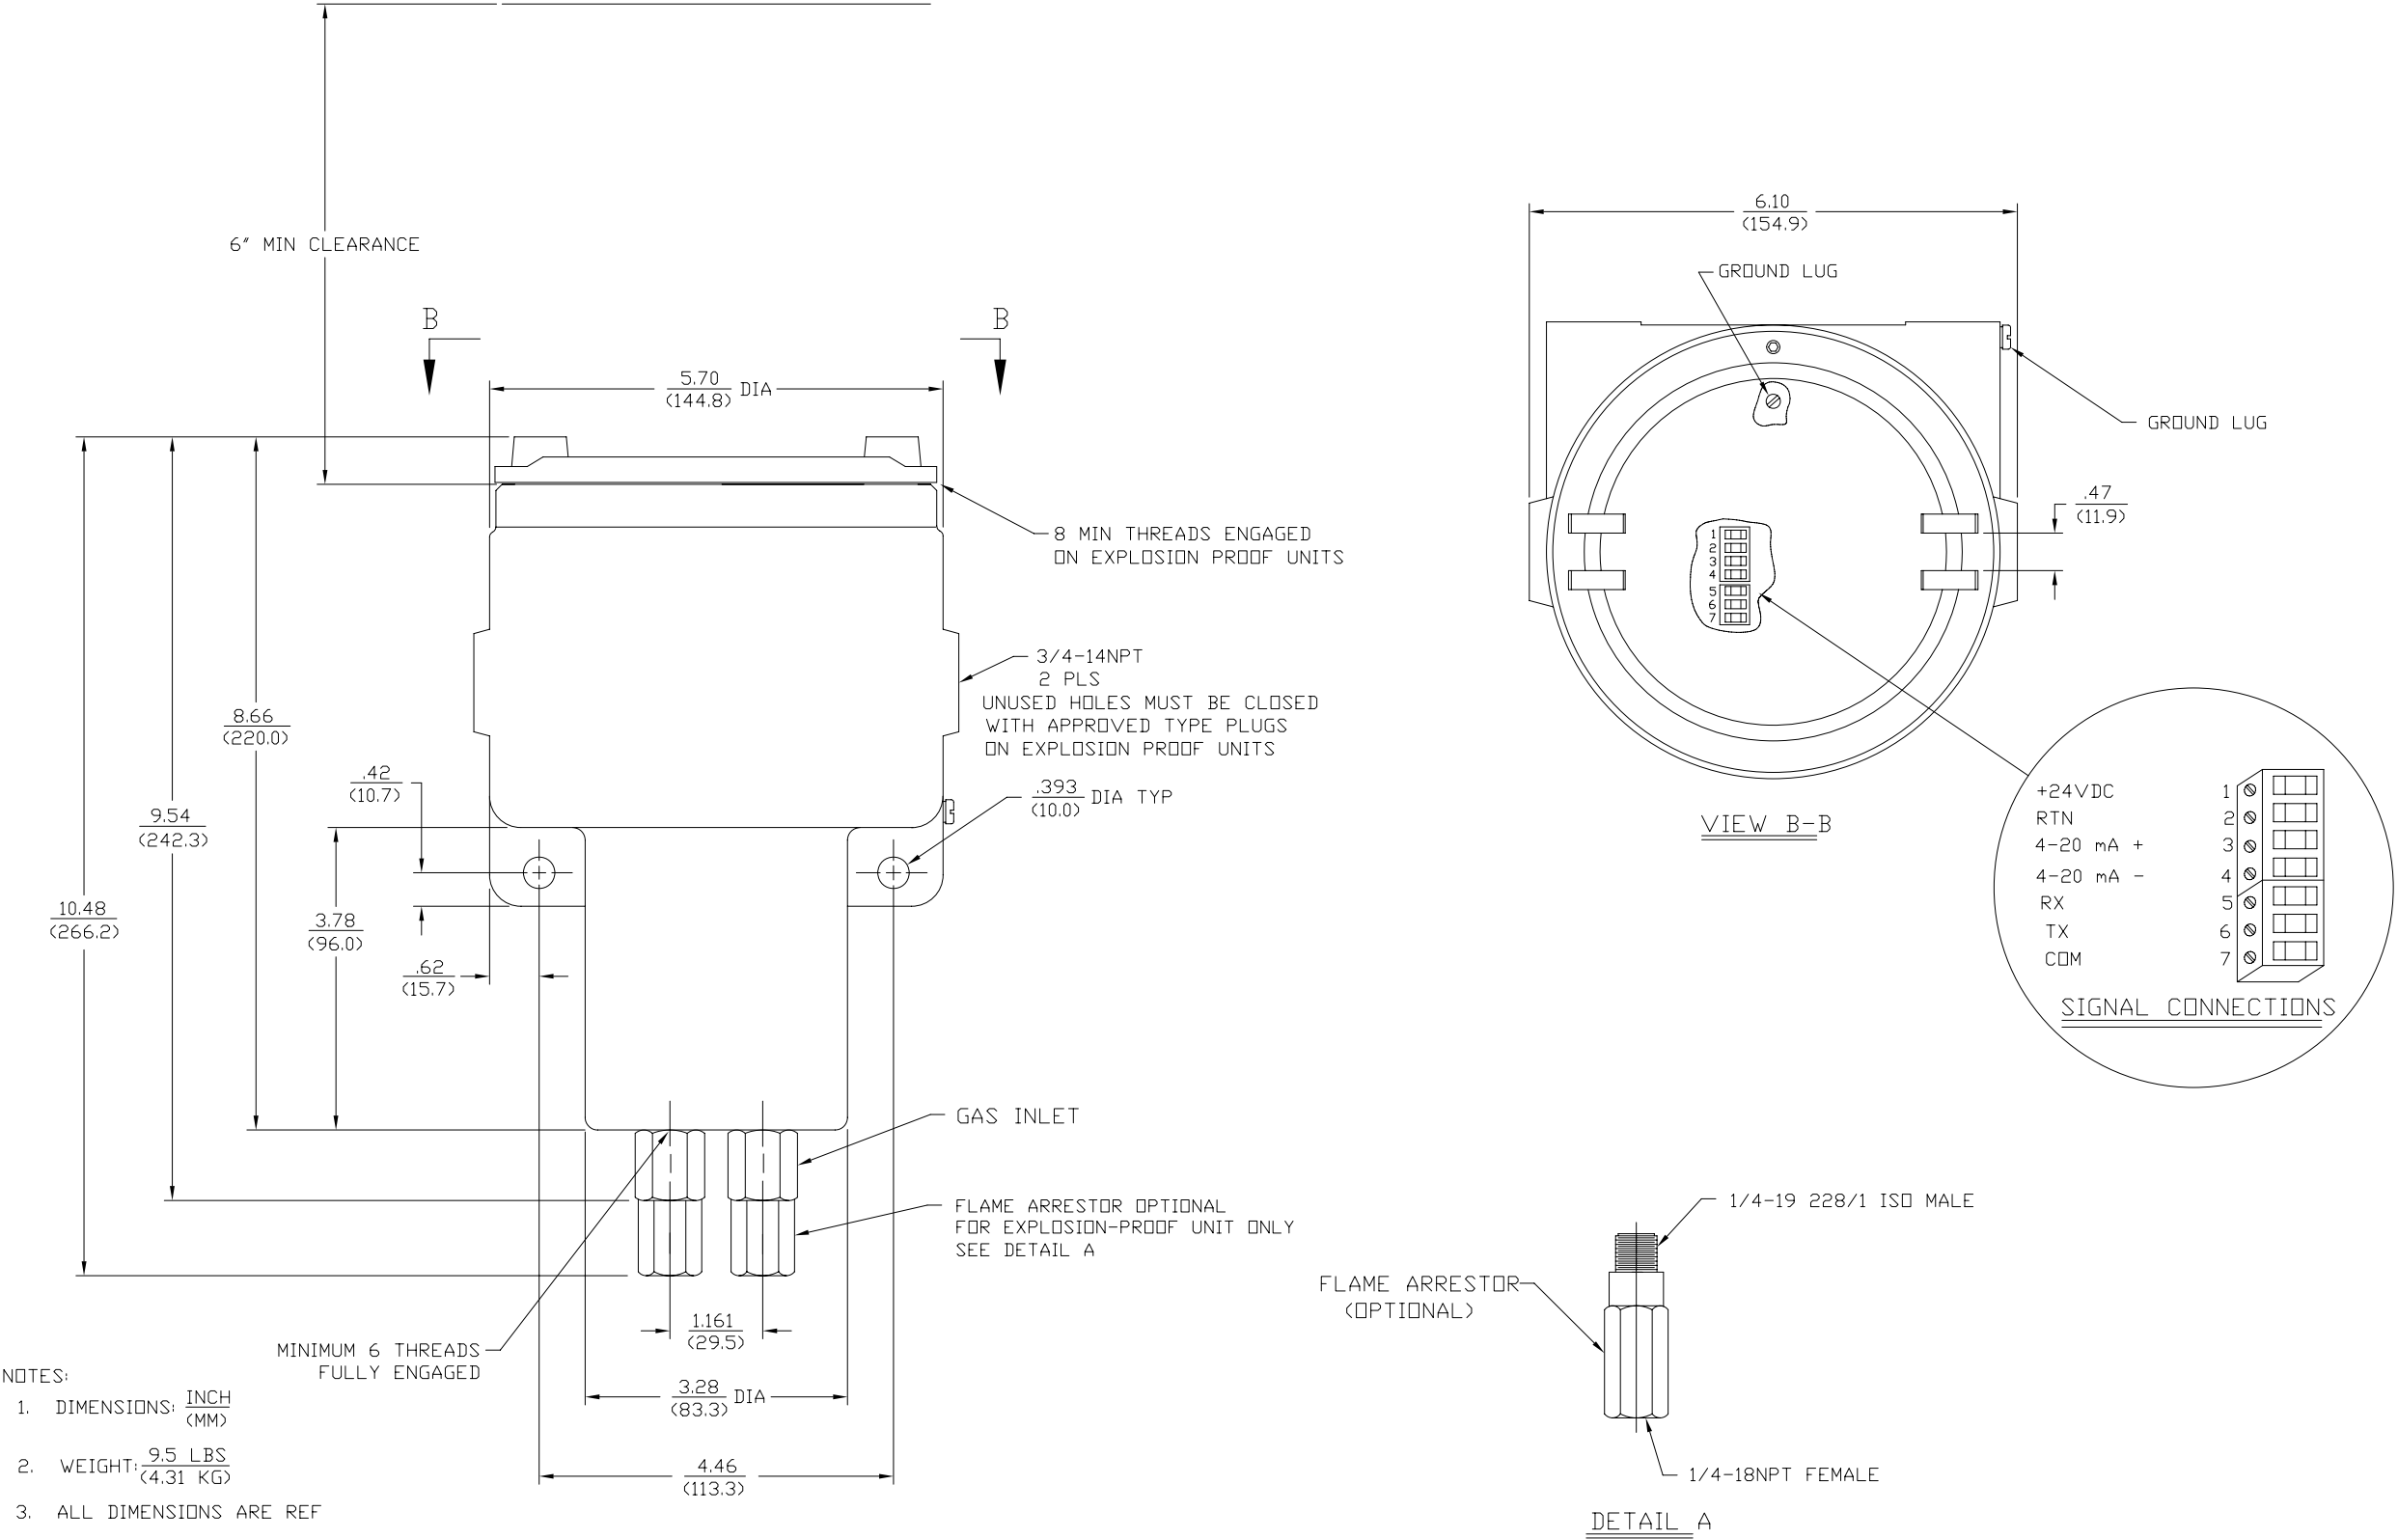

Figure 60: Outline & Installation - Sealed Reference (712-1058\_B)
- Figure 60, "Outline & Installation - Sealed Reference (712-1058\_B)," on page 71